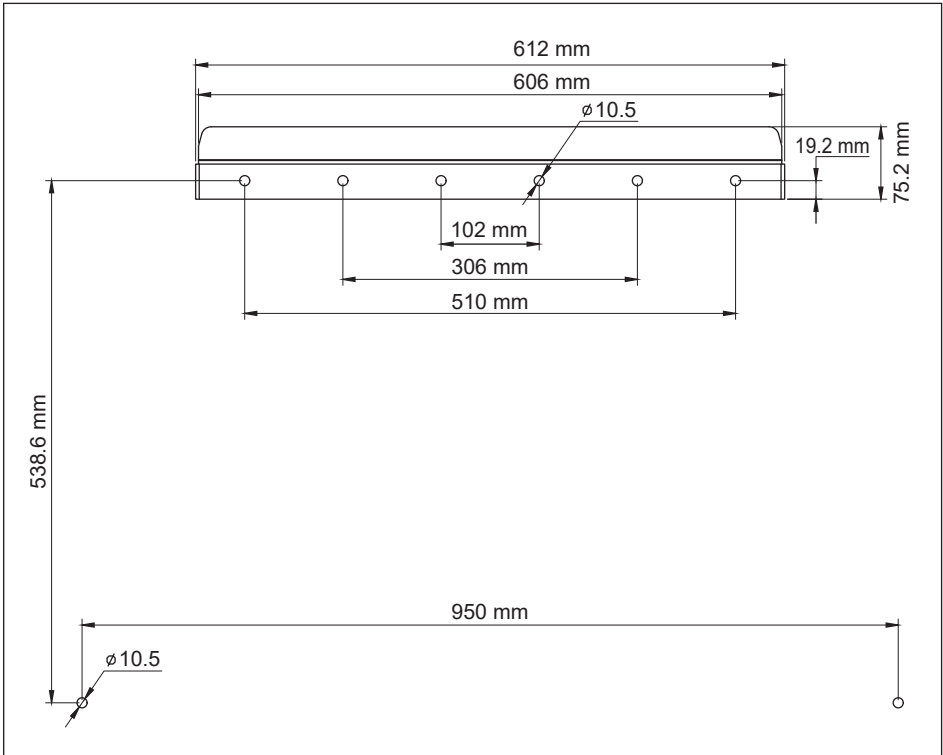
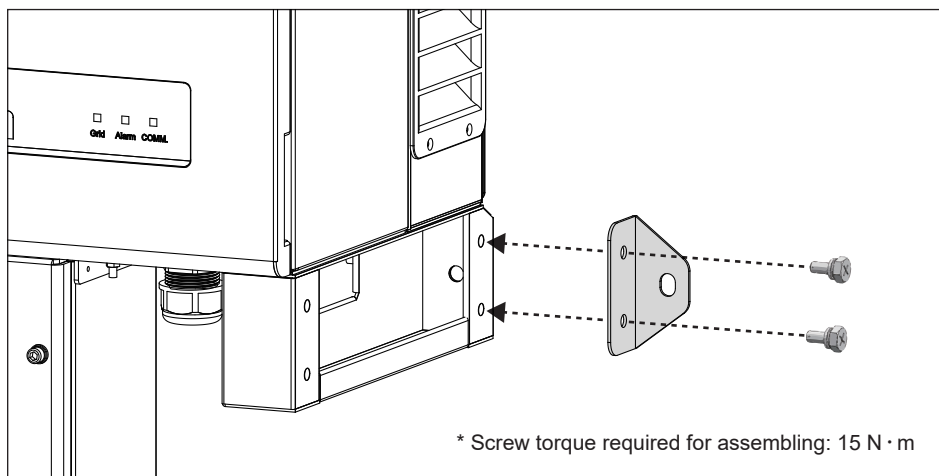
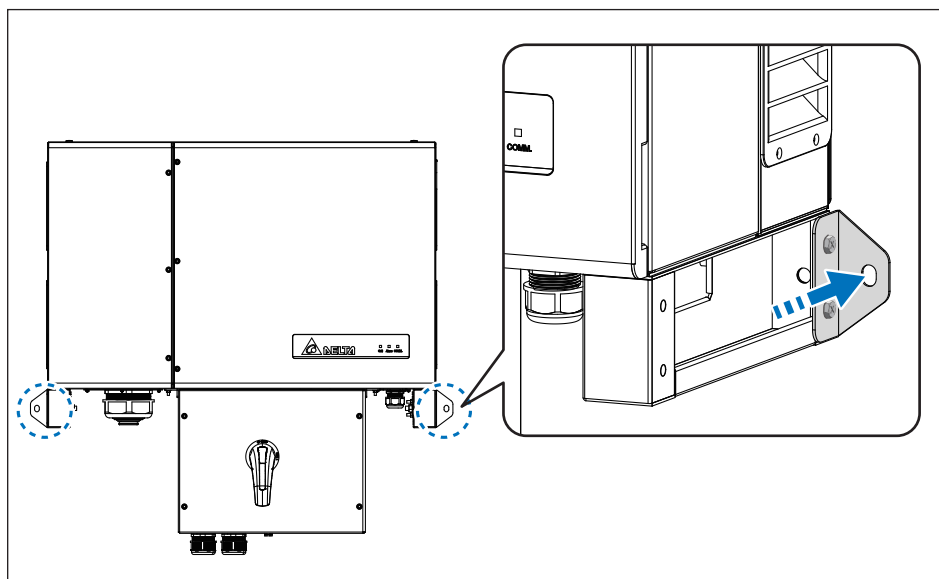

Figure 3-6: Mounting bracket dimensions
Figure 3-9: Install the unit on the foots
Figure 3-10: To secure inverter reinforce brackets to wall-mounting bracket
Refer to **Figures 3-6** through **Figures 3-10**.
2. Orient the wall bracket horizontally (perpendicular to the floor), with the large plate at the bottom, and mark required mounting hole locations per **Figure 3-6**.
5. Secure the inverter by inserting and tightening 2 M10 screws per **Figure 3-10**.
After installing the reinforce brackets on the foots (**Figure 3-9**), secure the reinforce brackets to the wall with two screws (M10) per **Figure 3-10**.